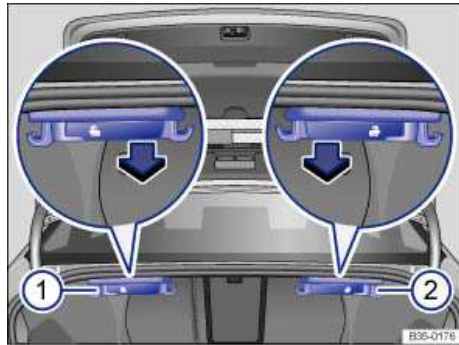

Fig. 96 In the luggage compartment: Release lever for the left 1 and right 2 sections of the rear seat backrest.
- Pull the remote release lever for the left ⇒ fig. 96 (1) or right (2) rear seat backrest in the direction of the arrow. The unlocked section of the rear seat folds forward automatically.